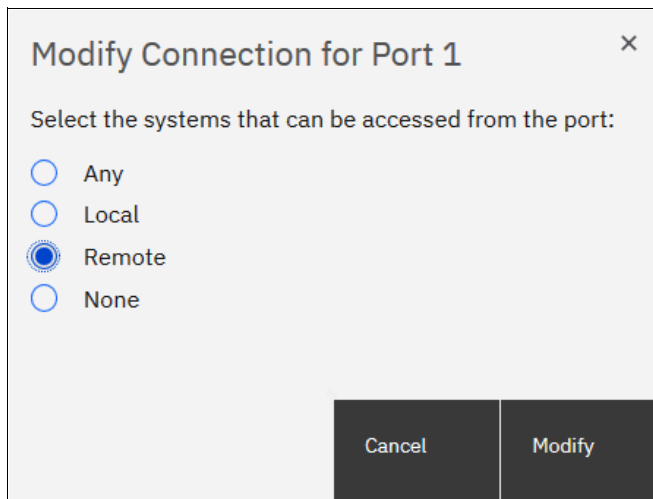

Figure 2-59 Modify Connection dialog box
3. In the Modify Connection dialog box (see Figure 2-59 on page 68), you can choose which type of traffic a port can send; for example, Remote if the port is dedicated to Remote Replication traffic. Click **Modify** when done.